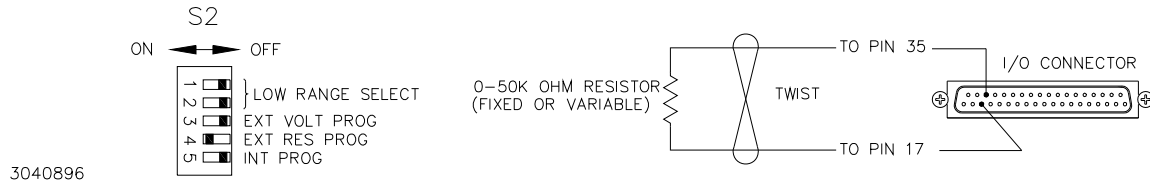

FIGURE 3-1. EXTERNAL RESISTANCE PROGRAMMING OF OUTPUT VOLTAGE
- b) **External Resistance Programming:** When enabled via S2-4, this mode provides for output voltage adjustment via an external resistance or potentiometer ($R_{POT} = 0 - 50\text{Kohms}$) connected between pins 17 and 35 (VRP1, VRP2) of the I/O connector (see Figure 3-1).